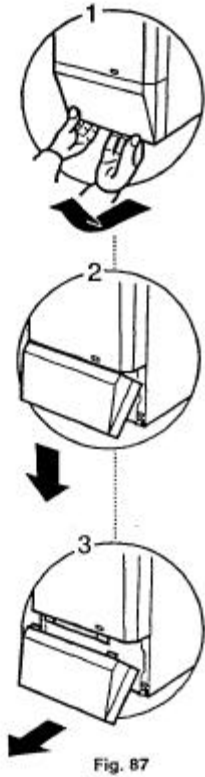

Fig. 87
2. Remove the lower door panel by following the sequence of diagrams (Fig 87).